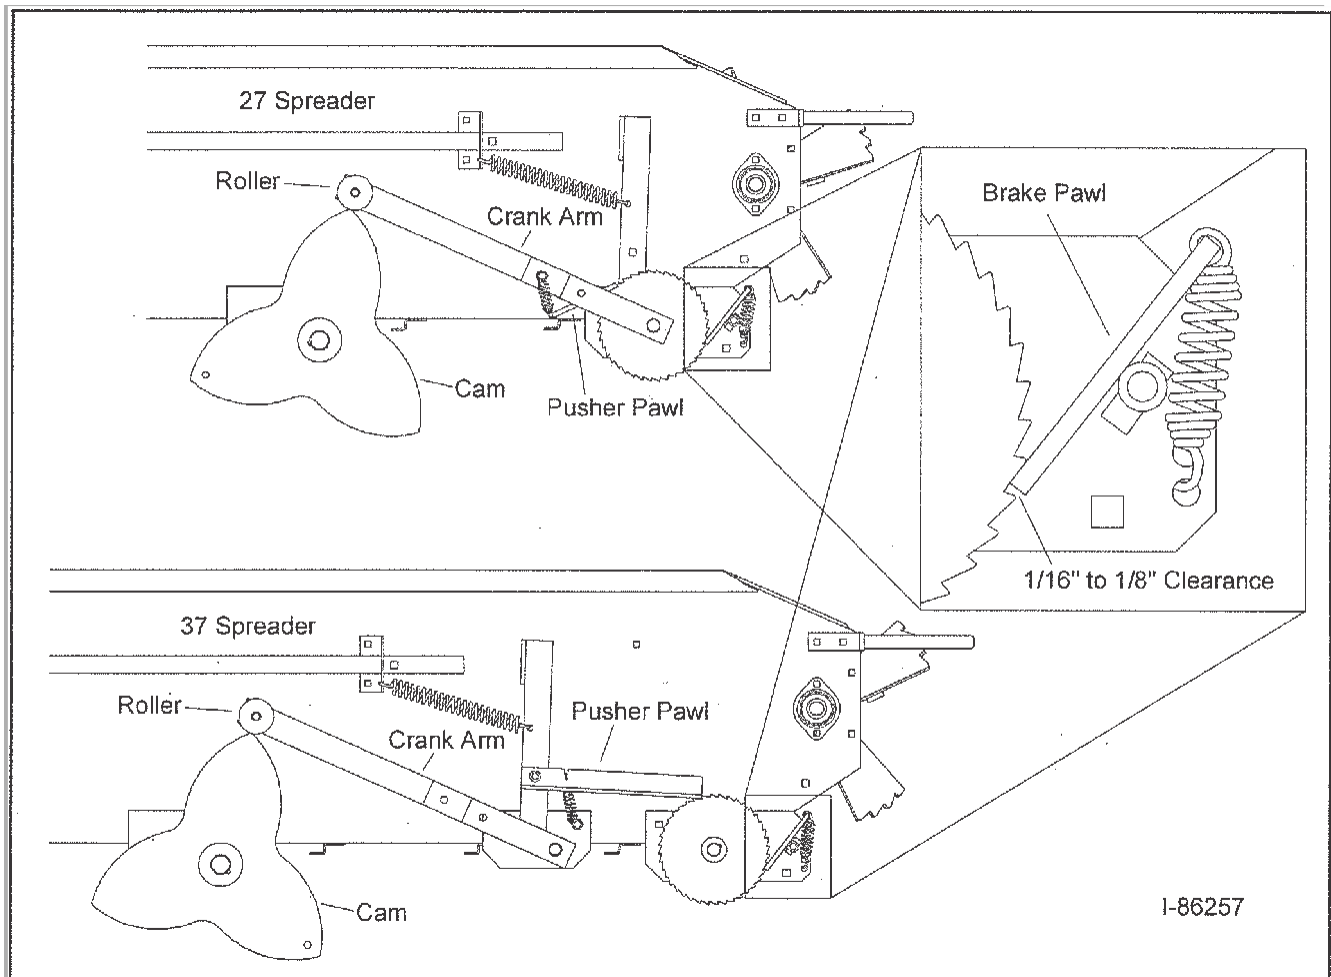

Figure 3C - Adjusting the Rear Brake Pawl
1. Refer to Figure 3C.
2. Remove the shield covering the brake pawl assembly by removing the two (2) nuts holding it in place.
4. With the roller positioned at the highest point on the star cam, tap the brake pawl up or down as necessary to attain a 1/16" to 1/8" clearance between the brake pawl and the sprocket tooth (see close-up detail in Figure 3C).